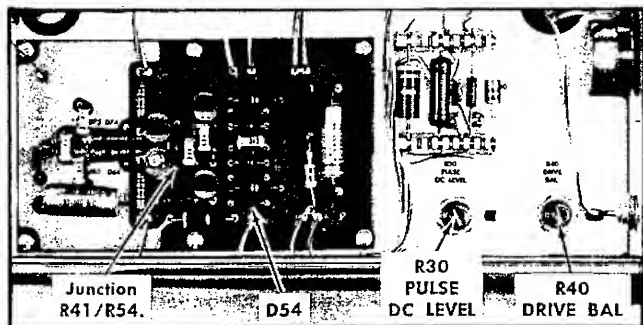

Fig. 5-2. Left side of Type TU-7 showing calibration adjustments and test points.
- a. Set the ohmmeter to the 1-ohm scale and check the in-circuit resistance across D54 for approximately 5 ohms in one direction; infinite in the other direction. See Fig. 5-2 for location of D54.
- Adjust DRIVE BAL R40 (see Fig. 5-2) if the amplitudes are not equal.
- Connect the dc voltmeter between chassis ground and the junction of R54 and R41 (see Fig. 5-2).